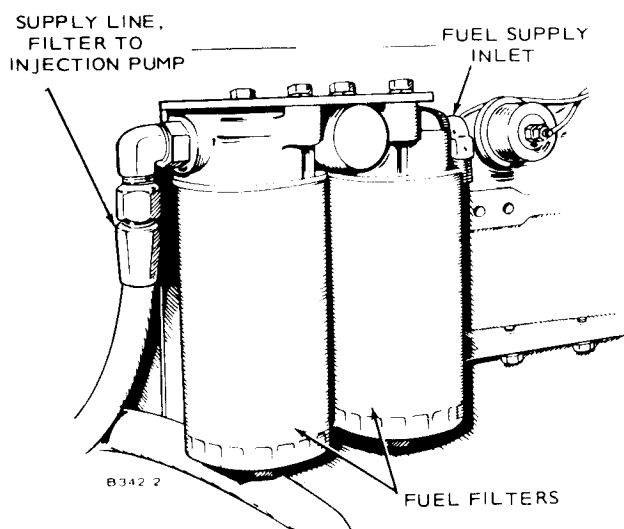

FIGURE 19. FUEL FILTERS
1. Remove each fuel filter (Figure 19) and fill with clean fuel.